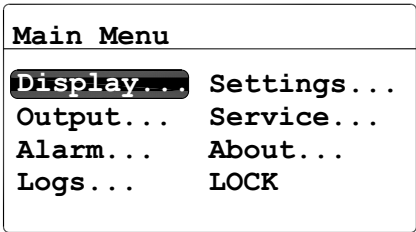

Figure 36: Main Menu
After unlocking the menu (as confirmed by the absence of the padlock icon in the lower right corner), press **Cancel** (X) to display the Main Menu (see *Figure 36* below). Use the arrow keys to select the desired menu option and press **Enter** (✓) to access the highlighted option. Pressing **Cancel** (X) from the Main Menu returns the screen to the *Measurement Display*.